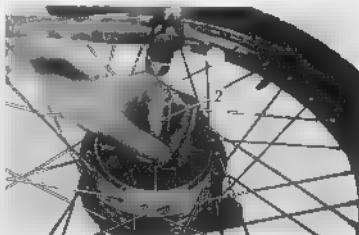

Fig. 4.101 Replacing ball bearing
- Drive the ball bearing into the final driven flange, and install the oil seal and the rear axle sleeve collar. (Fig. 4.101)